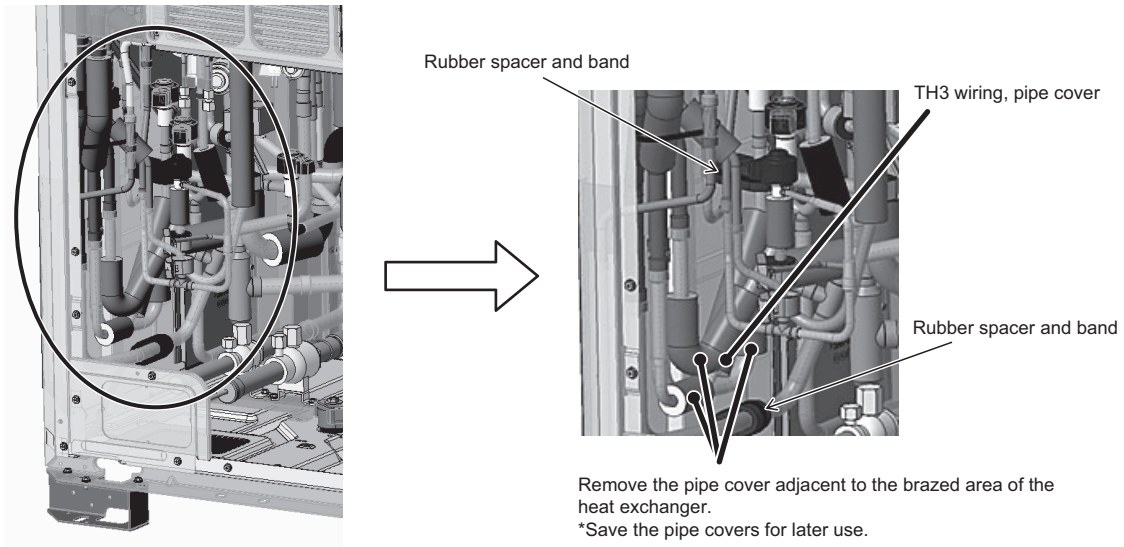

Figure 6
(6) Cut the bands on the TH3 wiring, and remove the pipe covers and rubber spacer on the heat-exchanger side. (See Figure 6.)